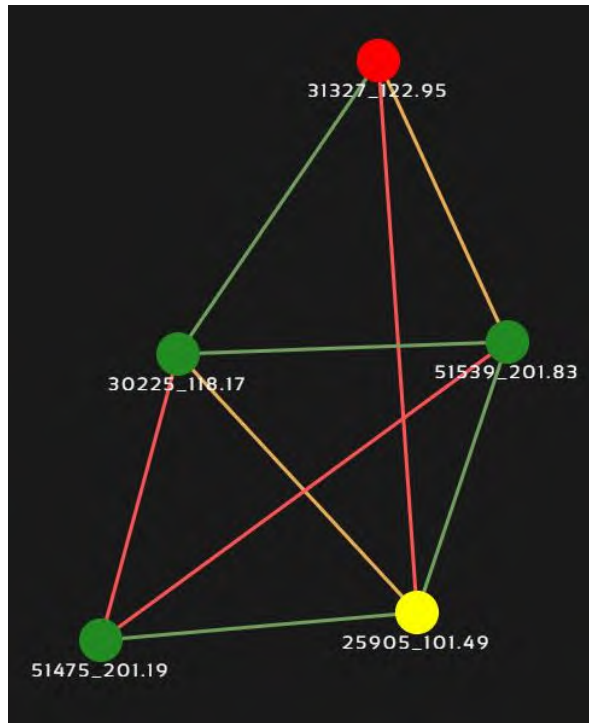

Figure 42 Example Network Topology
- **Color Coded Link Health** – Color coding of each link in the network allows the user to quickly identify the weak links within a network. A link between two nodes will transition from green to yellow to red as the link weakens while also displaying the SNR of the link. This can be seen in **Figure 42 Example Network Topology**.
- **Route Health** – The Silvus StreamScape Utility will alert the user when too many packets are being routed through a single node. In such cases, a node will change from green to yellow to red as the packet queue increases (see ‘31327_122.95’ and ‘25905_101.49’ in **Figure 42 Example Network Topology**). This will allow the user to recognize the issue and configure the network accordingly. Table below also shows the values for each scenario.